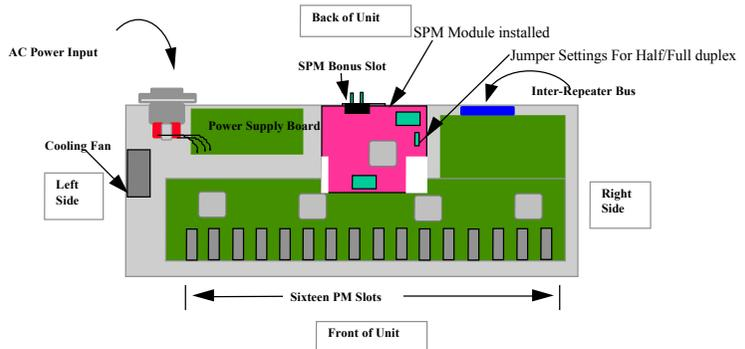

Fig. 3.10.1a Top View : SPM Module Installed in a 8000X
- Step 2.** The figure 3.10.1a below illustrates the layout of an SPM module installed in a 8000X unit. The SPM module fits easily into the SPM header.